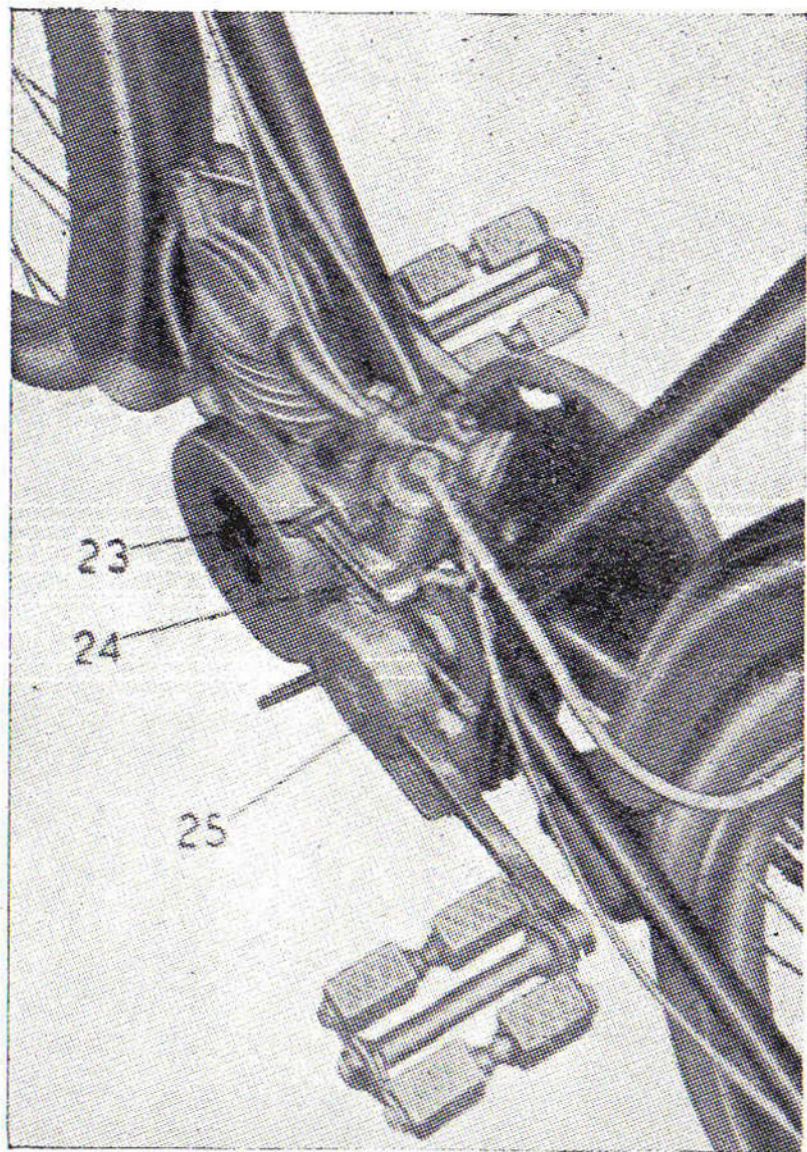

Fig. 10
Make sure that the gears are in the neutral position, that is rod (23) (Figure 10) is **half way in**. This can also be controlled by moving the cycle backwards as this will free the motor if either gear is "in." The motor being in neutral position there will be no difference from an ordinary bicycle and pedalling will be as usual. When a speed of about 3 to 4 miles per hour has been reached with the aid of the pedals, stop with your right pedal in a horizontal forward position. (Pre-selection of high gear).
For this purpose, the "bell-shaped" cam selector (25) (Figure 10) fitted on the left end of the pedal shaft will act as a pre-selector in conjunction with the combination lever (24). If the clutch-control lever is actuated while the left pedal is in the horizontal forward position the low gear will be engaged (or kept into, if previously already in low gear). With the right pedal in a forward horizontal position, actuating the clutch lever will engage the high gear.
Wrong adjustment of the combined pre-selector group, or Bowden wire of clutch-control pulled too tight, the lever (24) being too close to the selector (25) (see fig. 10).